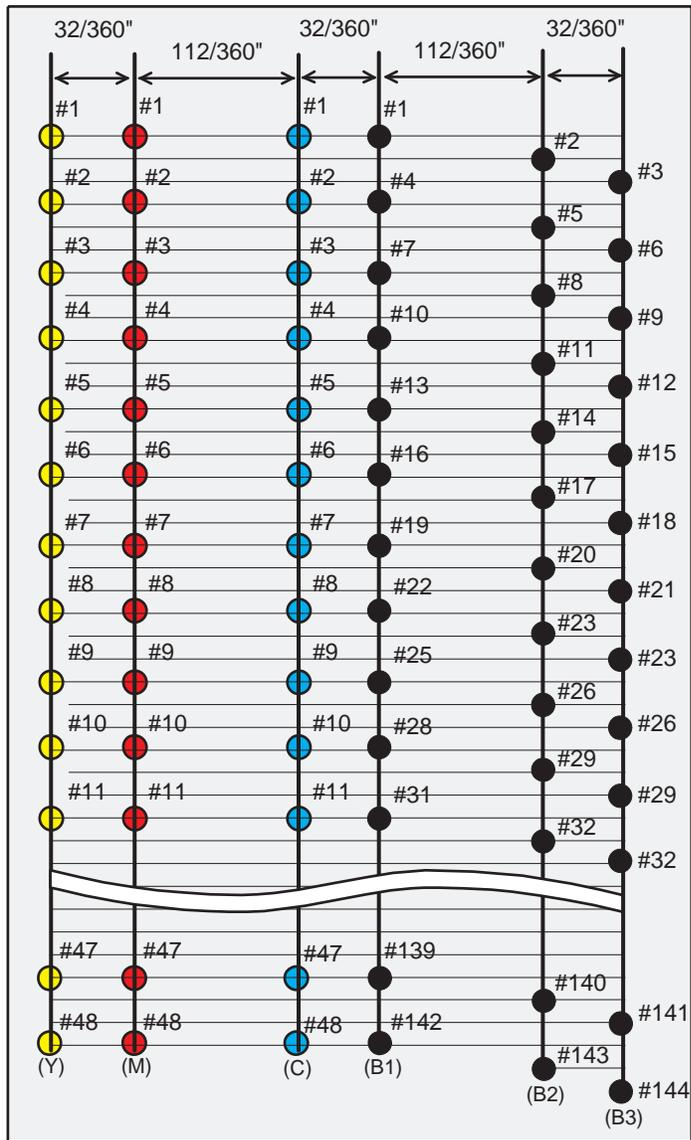

Figure 1-3. Nozzle Configuration for Stylus Color 740
- Refer to Figure 1-3 for Stylus Color 740.